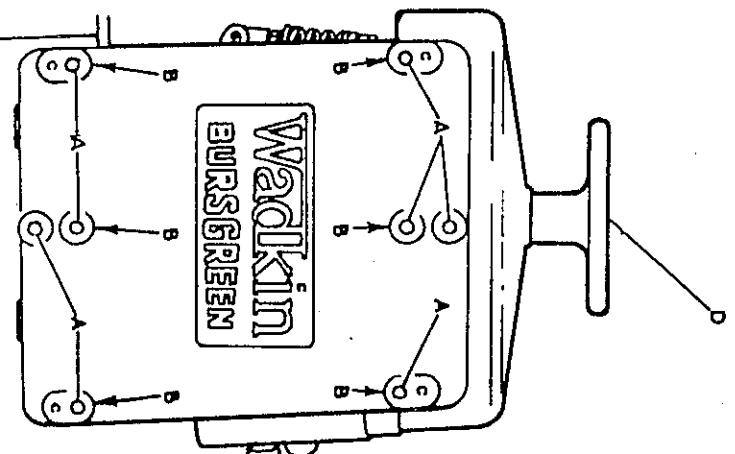
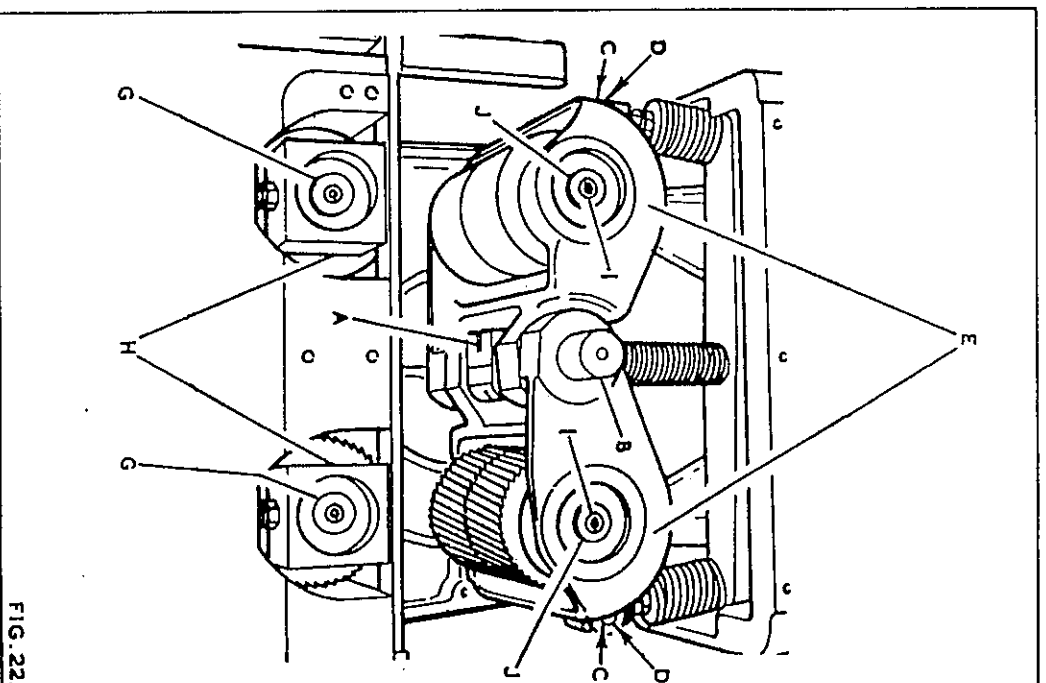

FIG. 21.
FIG. 22.
4. Loosen four round head screws holding infeed table visor and remove visor. Remove dust caps "A" in Fig. 21 and proceed to loosen socket head capscraws "B" in Fig. 21. Drift front sidetrane "C" from dowels by means of hide faced mallet or similar tool.
5. Raise feed rollers to top position by means of handwheel "D" in Fig. 21. Loosen socket head capscraw "A" in Fig. 22 then lower feed rollers by handwheel "D" in Fig. 21 down until they rest on piece of stock which should be placed beneath feed rollers to take weight.
6. Remove feed roller pivot shaft "B" in Fig. 22 by drifting from the rear of machine, then continue by removing circlips "C" and driving pins "D".
11. At this stage the bottom feed rollers can be changed by loosening countersunk head screws and washers "G" in Fig. 22 then removing bearing blocks "K". The feed rollers can now be removed from their respective shafts.
12. To remove the top feed rollers from housings, loosen hexagon head screws and washers "I" in Fig. 22 and remove shafts "J" by pressing from same end as circlip held bearings. Note position of spacers on shafts to ensure correct reassembly. The rollers can now be removed.